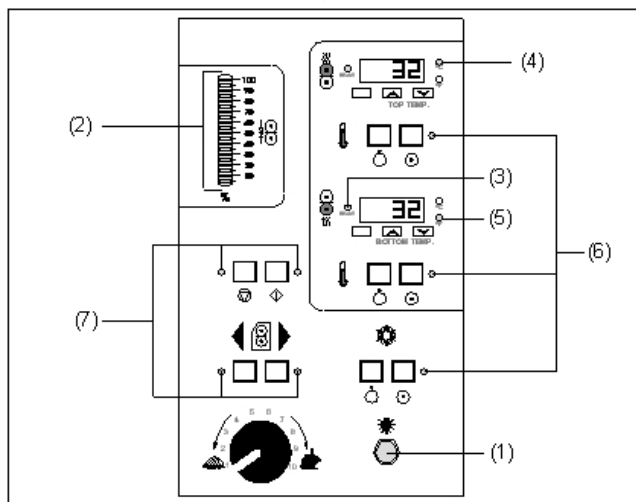

Fig 6
B. CONTROL PANEL INDICATORS: (Figure 6)